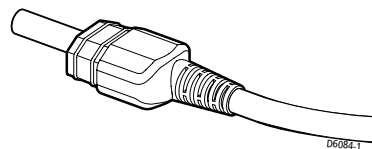

Figure 2-28: Cable boot
1. Slide a boot onto the cable (see *Figure 2-28*).